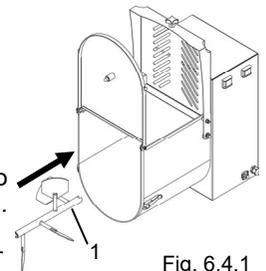

Fig. 6.4.1
- Grip the mixing blade "1" Fig. 6.4.1 and mount to bowl by pushing.